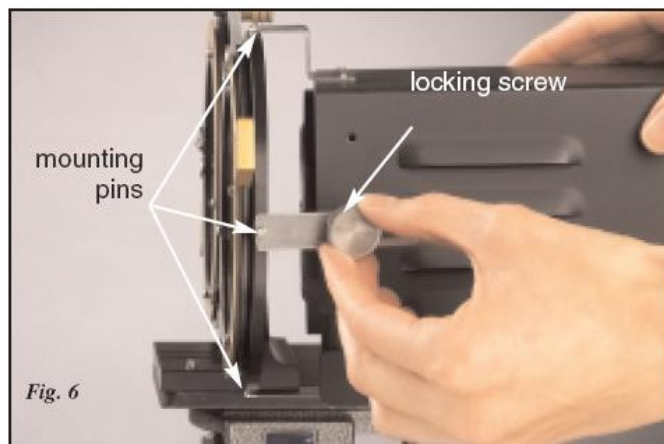

Fig. 9
7. Attach the camera to the mounting plate as shown in Fig. 9. Align the camera lens to be in the center of the polariscope glass plate, and about half an inch away. Basic instructions for using the camera with the LF/Z-2 Polariscope are given later.